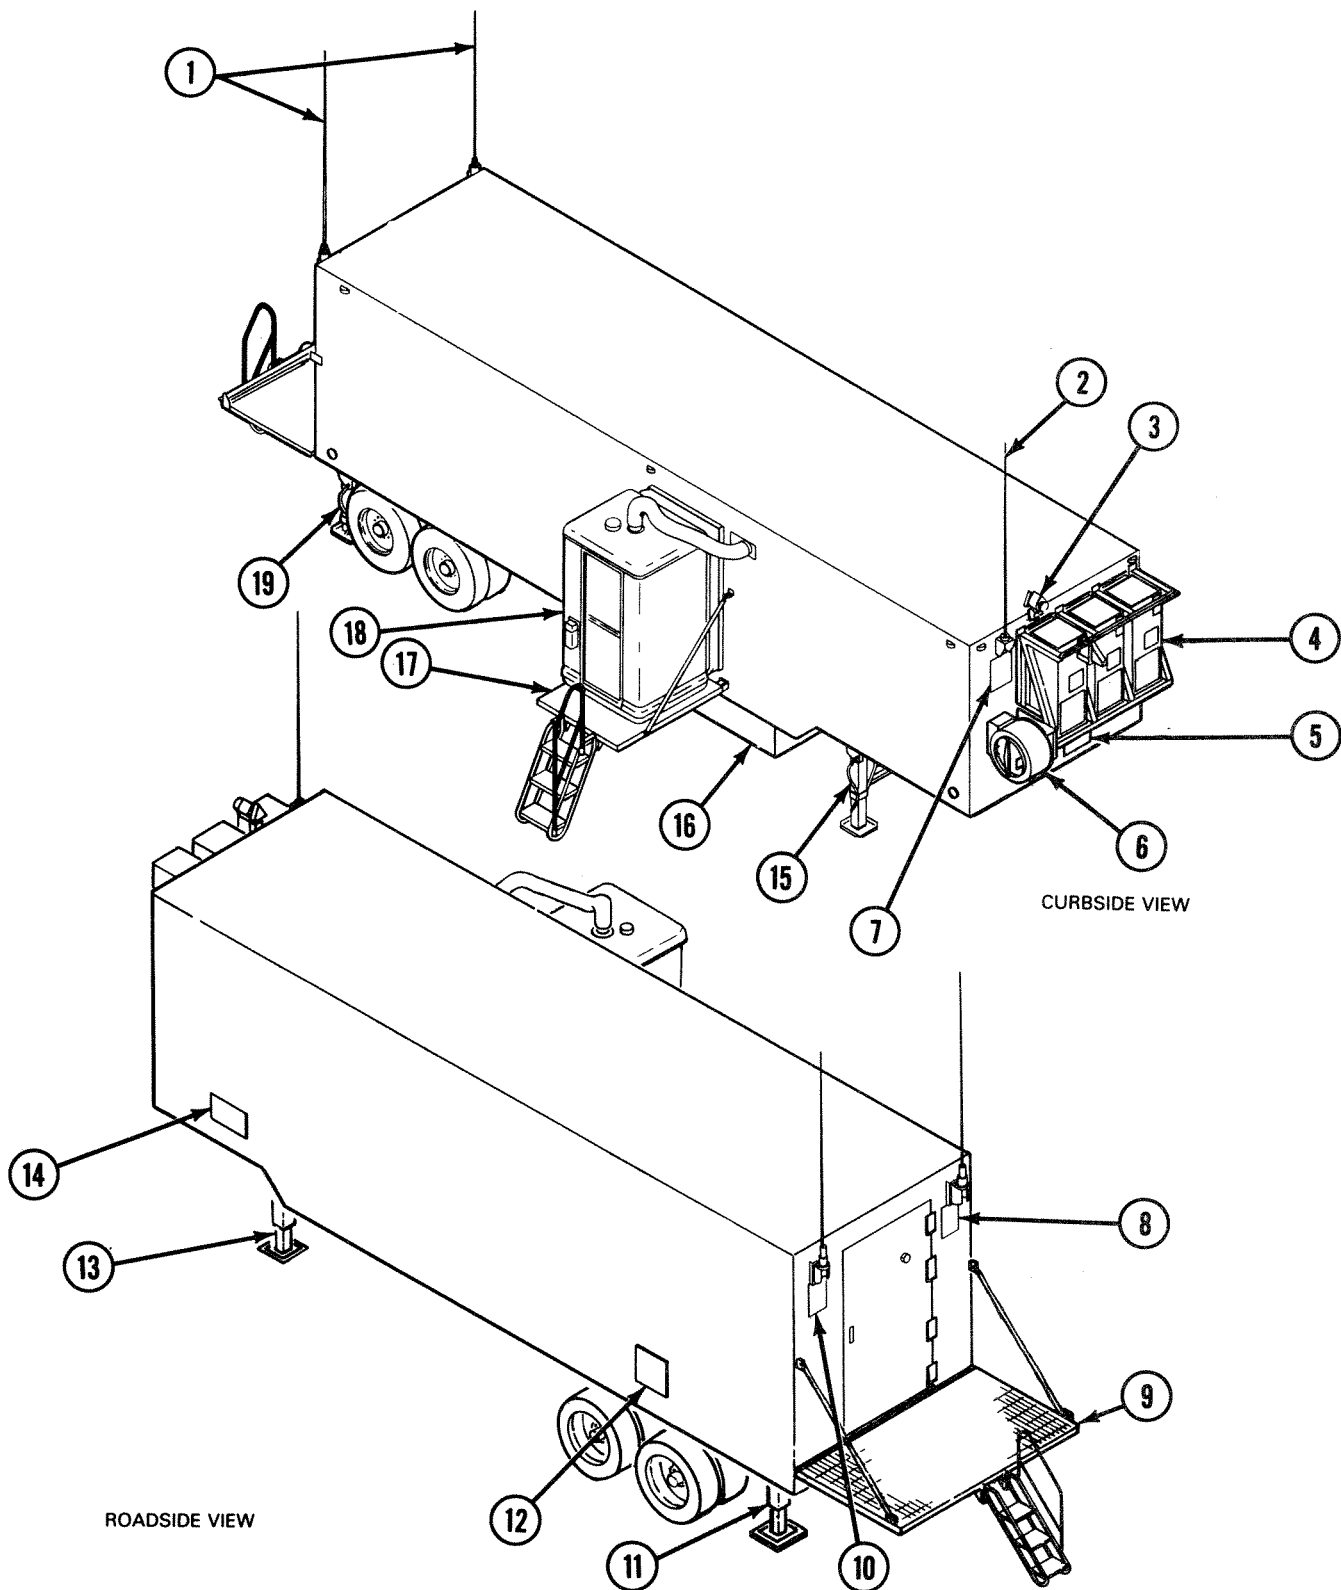

Figure 2-25. BCC Major Exterior Features
a. Exterior Features. Figure 2-25 shows BCC major exterior features.